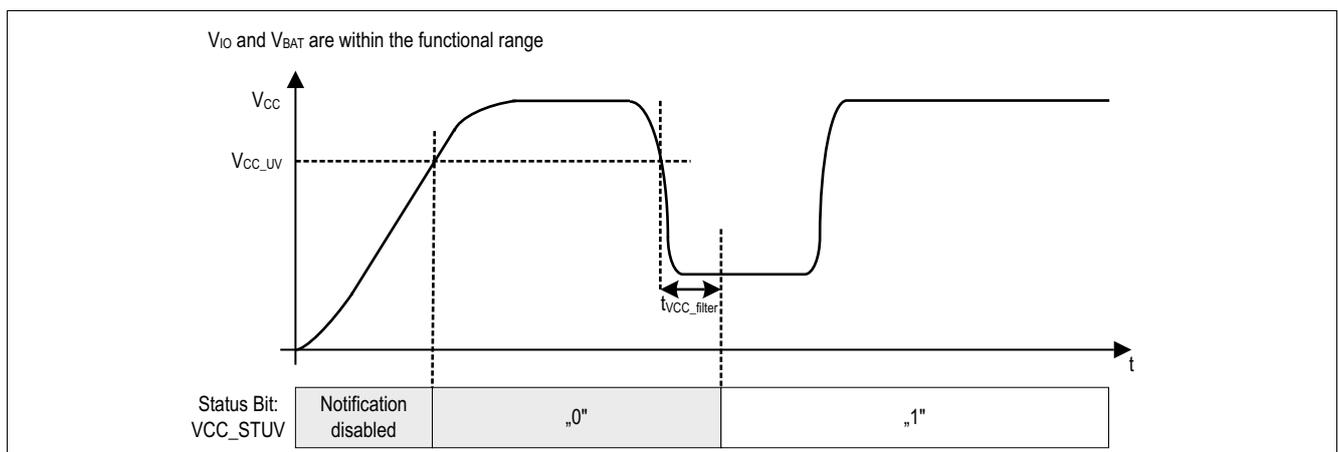

Figure 27 Undervoltage detection  $V_{CC}$  during  $V_{CC}$  supply stabilization period after Power on Reset
- Set short-term undervoltage bit **VCC\_STUV** to “1” in the SPI register **TRANS\_UV\_STAT**. Only after the completion of a Power on Reset, the  $V_{CC}$  supply stabilization period must be completed before an undervoltage notification can be recorded in the **VCC\_STUV** bit. After Power on Reset the undervoltage notification is only possible once the  $V_{CC}$  supply has exceeded the threshold  $V_{CC\_UV}$ , that is  $V_{CC} > V_{CC\_UV}$ . **Figure 27** shows this scenario.